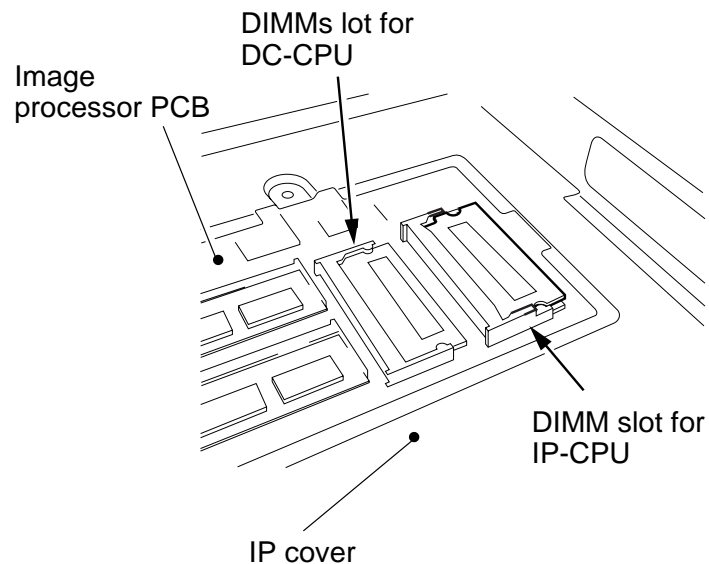

Figure 3-12
The DIMM (flash ROM) used in the machine comes in two types; both types are mounted on the image processor PCB. Figure 3-12 shows a view in which the IP small cover has been removed:
- 1) Check the DIMM slot on the IP PCB. The wrong slot can cause malfunction; pay attention. (Figure 3-12)